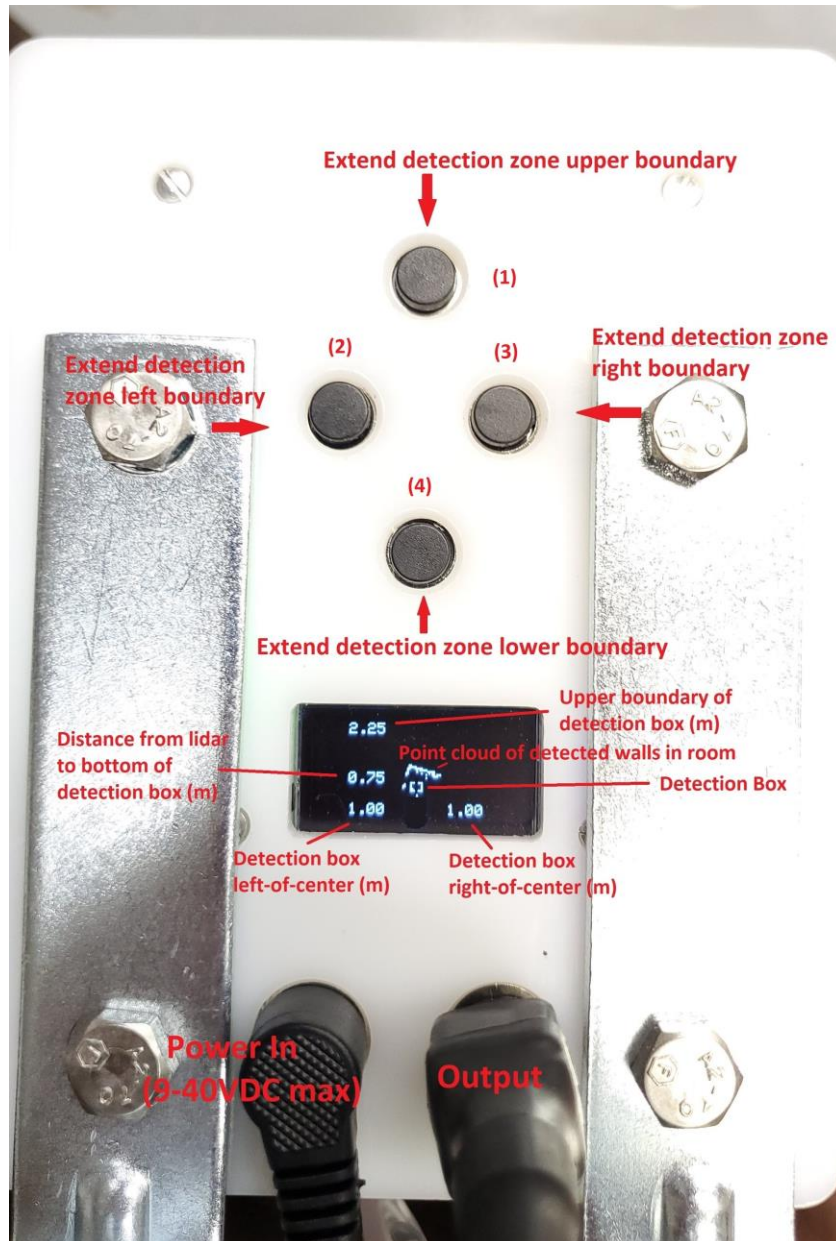

Figure 2: LIDAR controls and power input/output connectors
Four buttons located above the display (shown in figure 2, below) are used to adjust the four dimensions of the Detection Box. The forward button (1) extends the upper boundary of the Detection Box outward from the front of the LIDAR. The left button (2) extends the Detection Box to the left of the LIDAR and the right button (3) extends the Detection Box to the right. The bottom button (4) extends the lower boundary of the Detection Box away from the sensor.